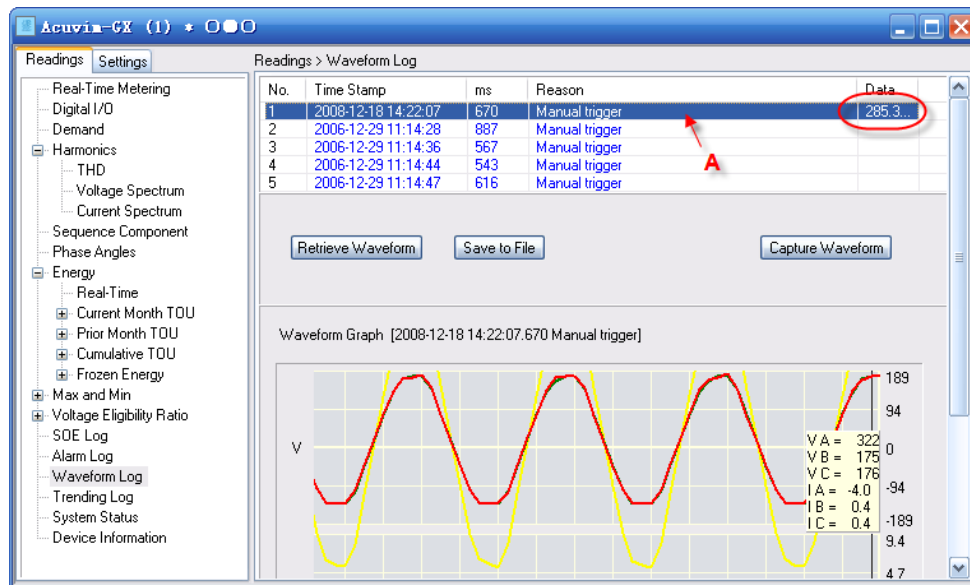

Figure 5.5.10. Waveform Log (2)
- 2) An item whose data field is not empty may be selected. Its waveform will be displayed as shown in Figure 5.5.10. Section A means to click an item with data.